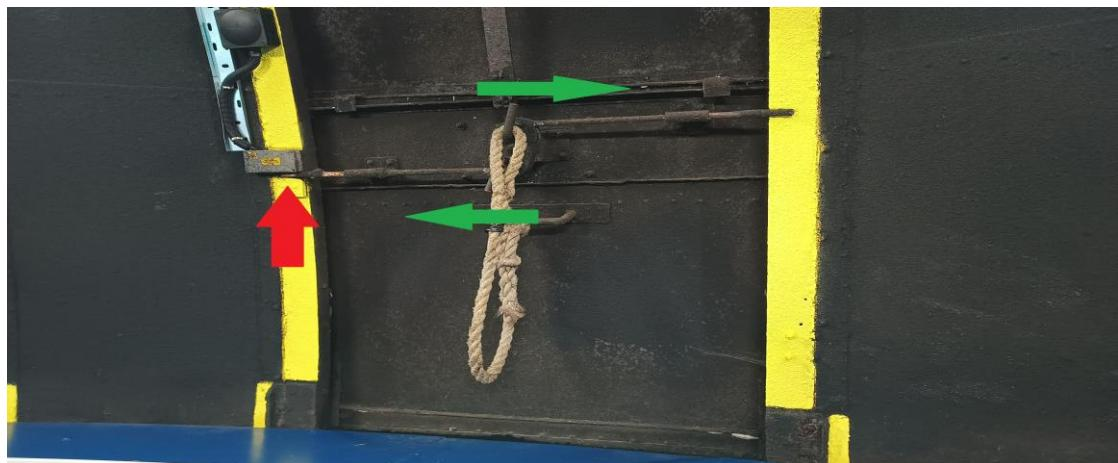

Fig. 26: Trap Door locking lever pins (green arrows) & Interlock switch (red arrow)
10) Now close the aperture trap door (Fig. 26) (if open) by pulling on the rope and pulling the door in towards you. **(Be careful as it is heavy and needs a firm pull by hand. The use of the small steps may help)**. Once it's pulled up then use the locking lever to twist close the pins in the direction of the green arrows to engage with the yellow painted dome frame sections:
This is more than likely because the trap door lever pin is not fully closed and fully engaged with the interlock switch (See fig. 26). Open and firmly close it again ensuring it is FULLY and FIRMLY engaged!